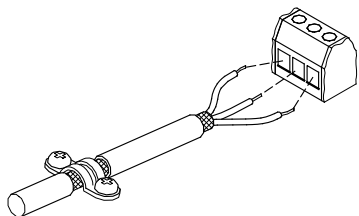

Fig. 42 Example of stripped cable with screen
- Leave the screen as close to the connecting terminals as possible. See fig. 42.